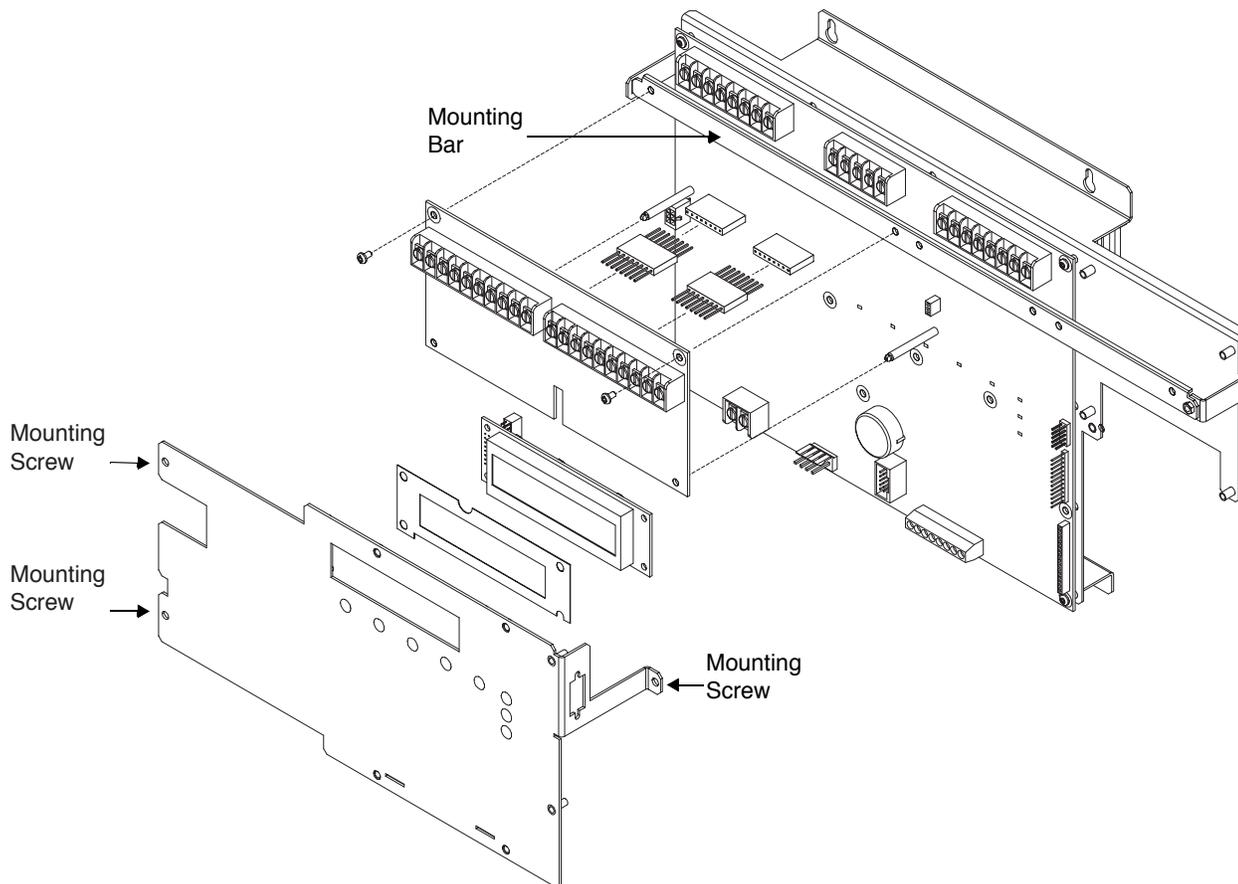

Fig 2: Mounting expansion relay
1. The LCD Display/Keypad mounts to the MSB using three T15 Torx screws. Remove these three screws. Refer to Figure 2 for the location of these screws.
3. Place the end of the bar with the round hole over the threaded portion of the right post. Use the nut included with the stabilizing bar to secure the bar to the right post. See Figure 2.